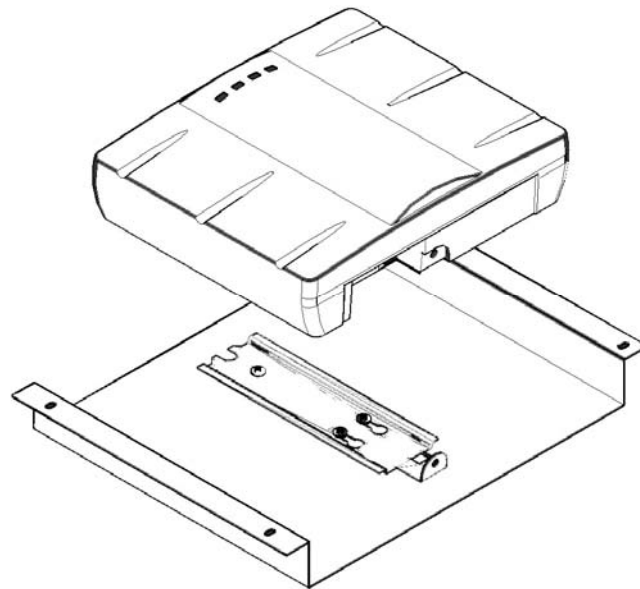

Figure 2
Step 2 – Attach the Enterasys 3610 Access Point to the Enterasys mounting plate by placing it over the Enterasys mounting plate and sliding it into the locking position (Ref. Figure 2).